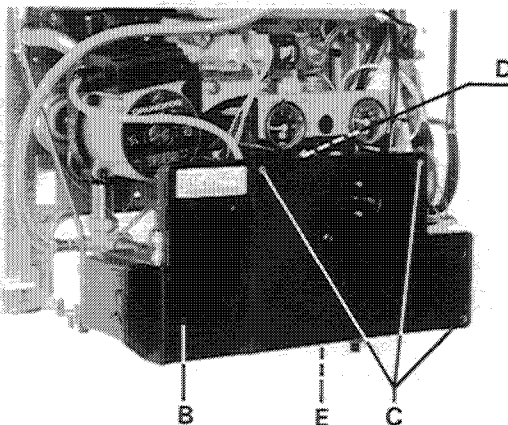

Fig. 56
- q) Continue moving electrical box until bottom support bracket can be positioned on hook at bottom of appliance (see fig. 56 a). To remove the electrical box completely, continue in the following manner.
- d) Drain boiler down through safety valve (F) (see section 8.11 (fig. 56)).
- e) Disconnect bleed pipe union from pump volute (E).
- f) Disconnect drain tube (B).
- g) Pull out spring clip (A) with pliers.
- h) Disconnect flexible pipe union (D) at pump outlet.